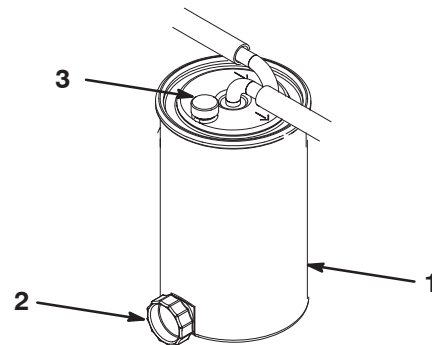

Figure 43
1. Clean the area where the filter canister mounts (Fig. 43).
3. Open the filter drain plug and breather valve (Fig. 43).